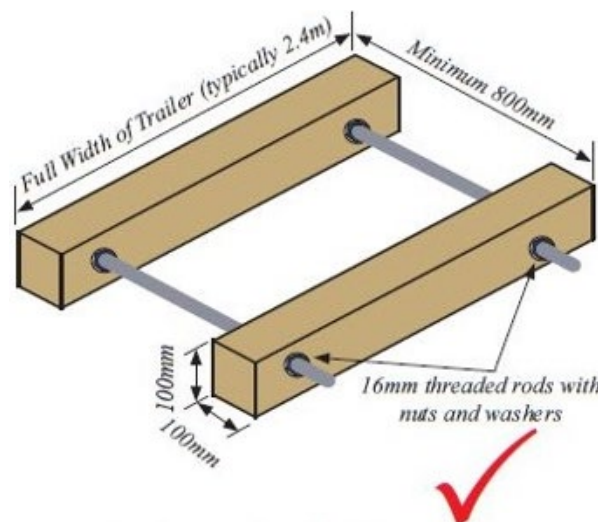

Figure 2: Reel Racks with Tie-rods
- ✓ Reel Racks with Tie-rods must be used for large reels (e.g., 1700 mm diameter) – refer Figure 2: